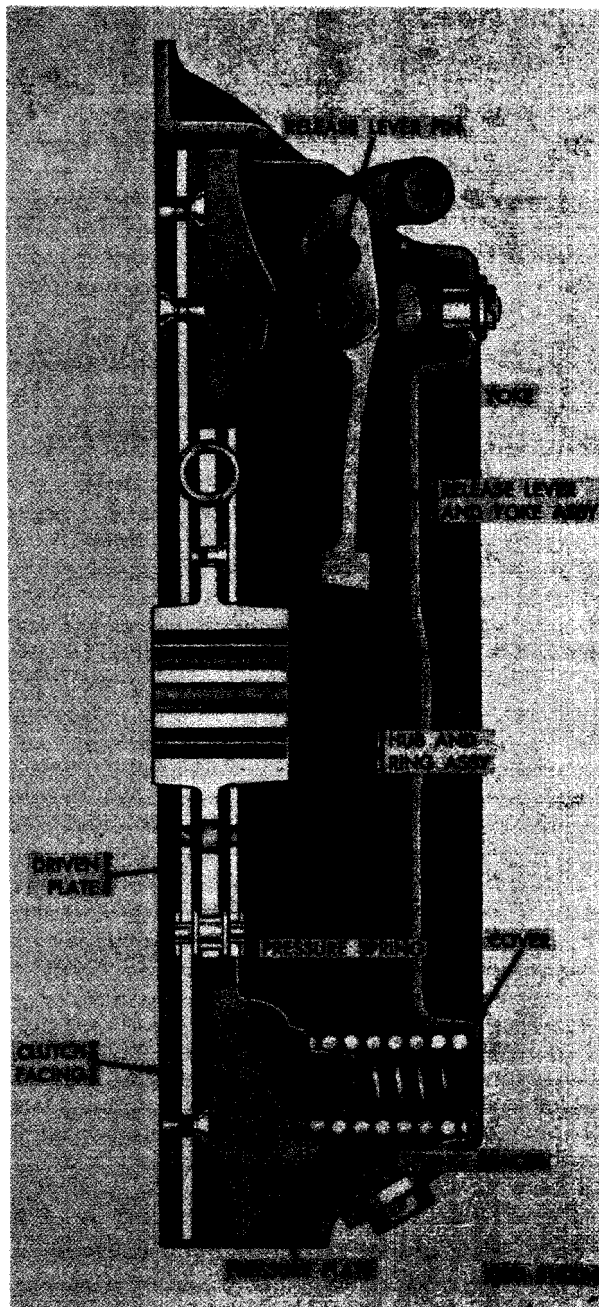

FIGURE 447. CLUTCH ASSEMBLY - SECTIONAL VIEW.
**a. Description.** The clutch assembly (fig. 447) consists of the driven member assembly and clutch cover assembly. The driven member assembly is made up of the driven plate and facing assembly, hub and ring, and retainer plate. The clutch cover assembly contains the pressure plate, four release lever and yoke assemblies, sixteen pressure springs, and clutch cover.
c. Install Pressure Springs. If pressure plate has been resurfaced, install 1/32- inch thick spacers (fig. 447) under pressure springs for each 1/32- inch removed from the pressure plate surface. The spacers will be necessary in maintaining original spring tension. Refer to figure 452 and reverse the sequence of instructions to install pressure springs.